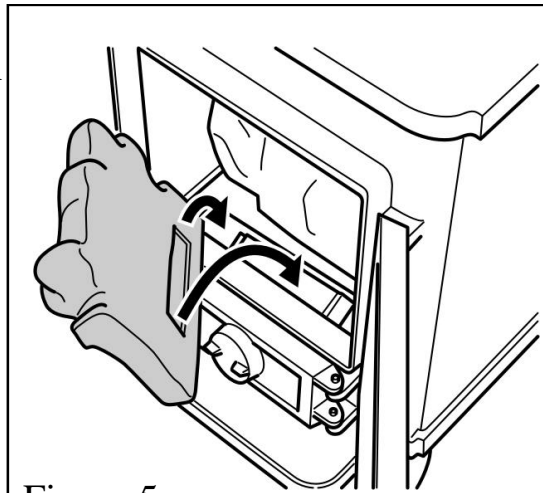

Figure 5.
7. On the front of the burner there is a bracket for supporting the front ceramic base. At the rear of the front ceramic base is a recess. Fit the front ceramic base piece locating the recess onto the forward projecting part of the burner bracket (See figure 5).